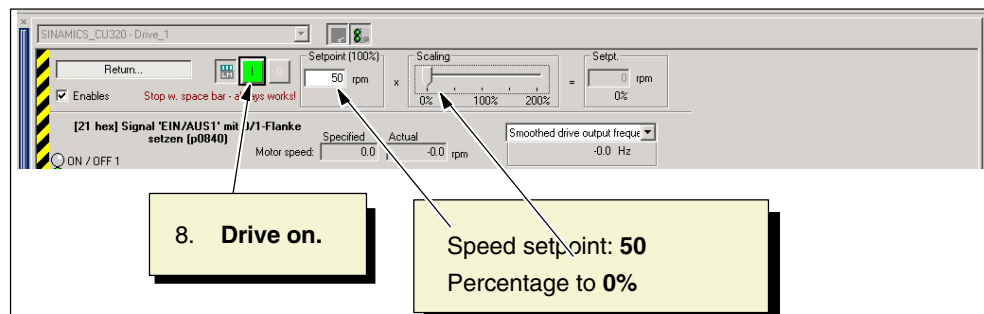

Fig. 4-8 Control panel before “Drive on”
7. Before starting the motor by choosing **Motor on** (see Fig. 4-8), you have to make the following settings: